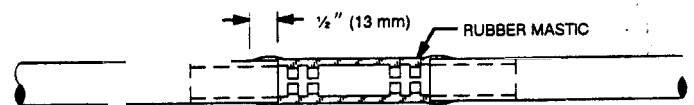

FIGURE 4
1. Smoothly overwrap connector with rubber-mastic tape provided. Apply with mastic side in, towards connector. Build-up thickness to level of cable insulations, overlapping ½" (13 mm) onto insulations. (*FIGURE 4*)